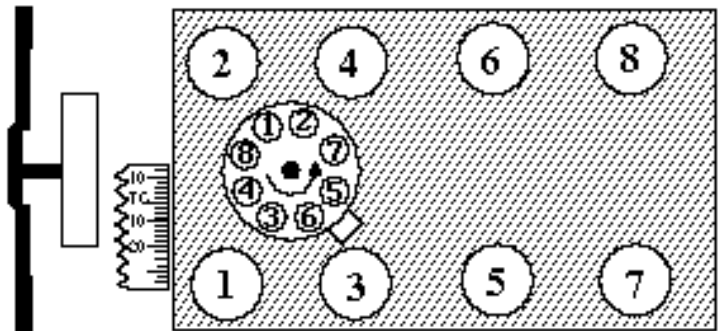

Figure 2—413-426 Wedge-440 c.i.d. Chrysler
- **FIRING ORDER AND CYLINDER NUMBERING—**For firing order and cylinder numbering, see Figure 2.